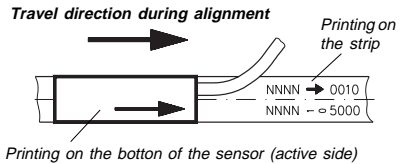

Fig. 3: Sensor alignment MSA
*Magnetic sensor and magnetic strip must be calibrated as shown below, ie. the arrows marked on sensor and magnetic strip must head in the same direction (see Fig. 3).*